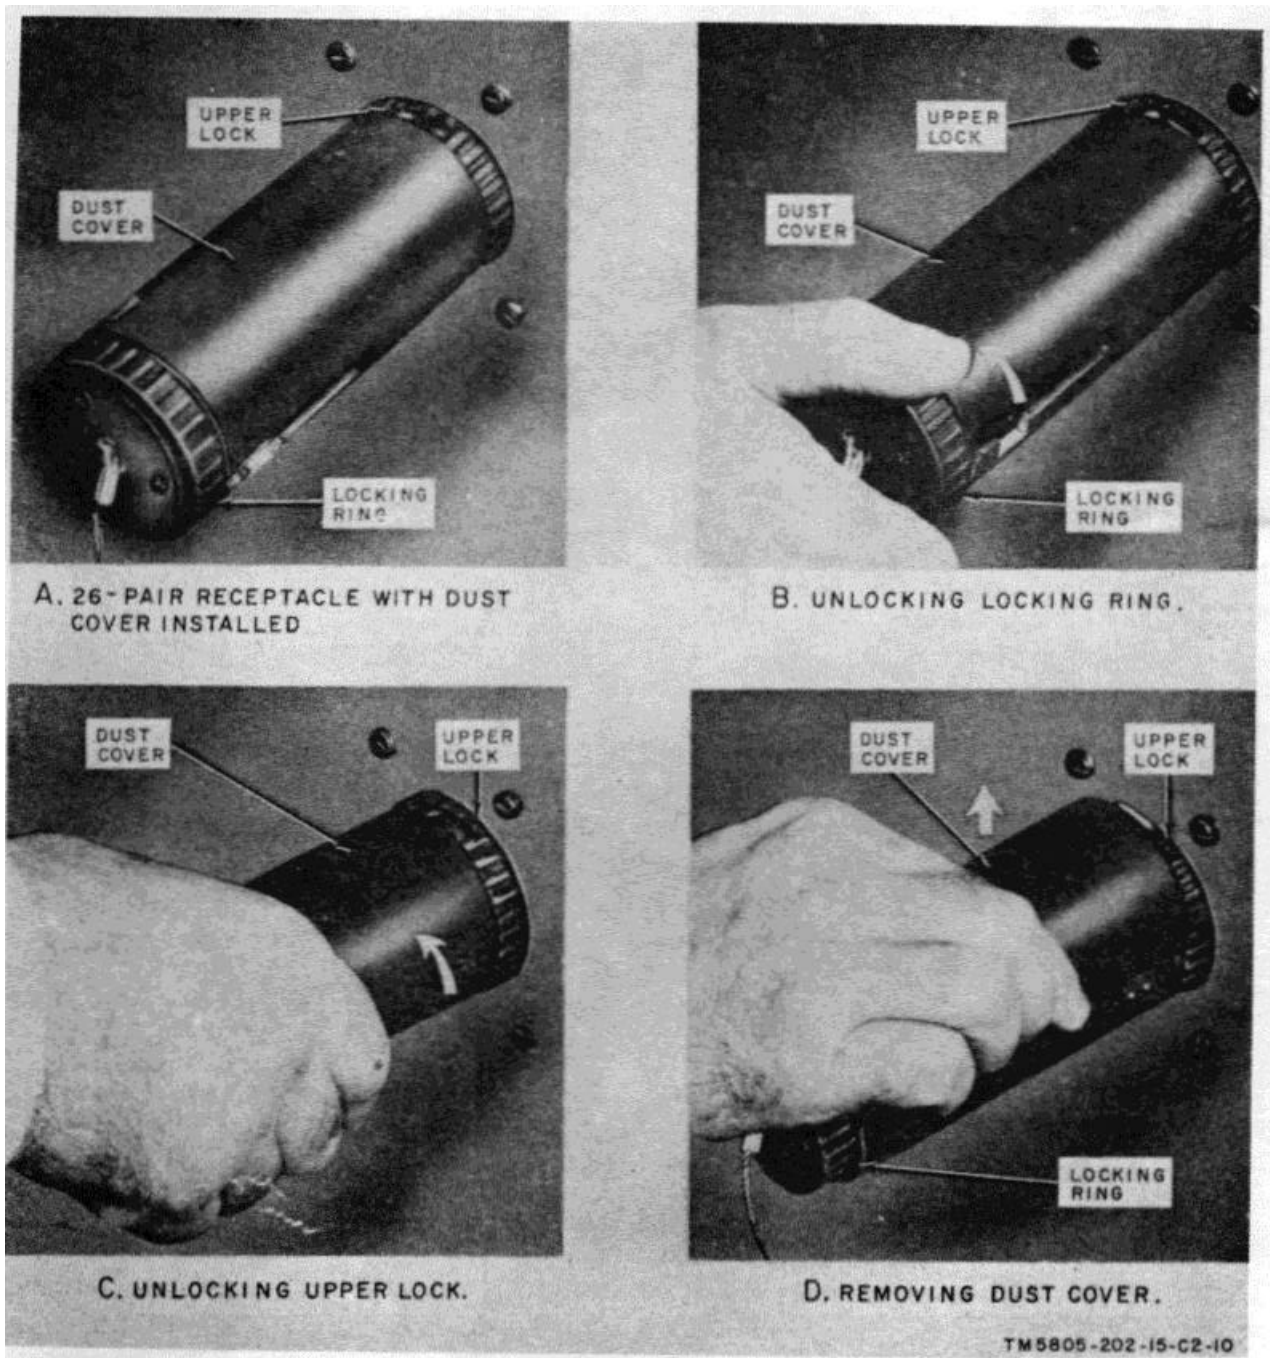
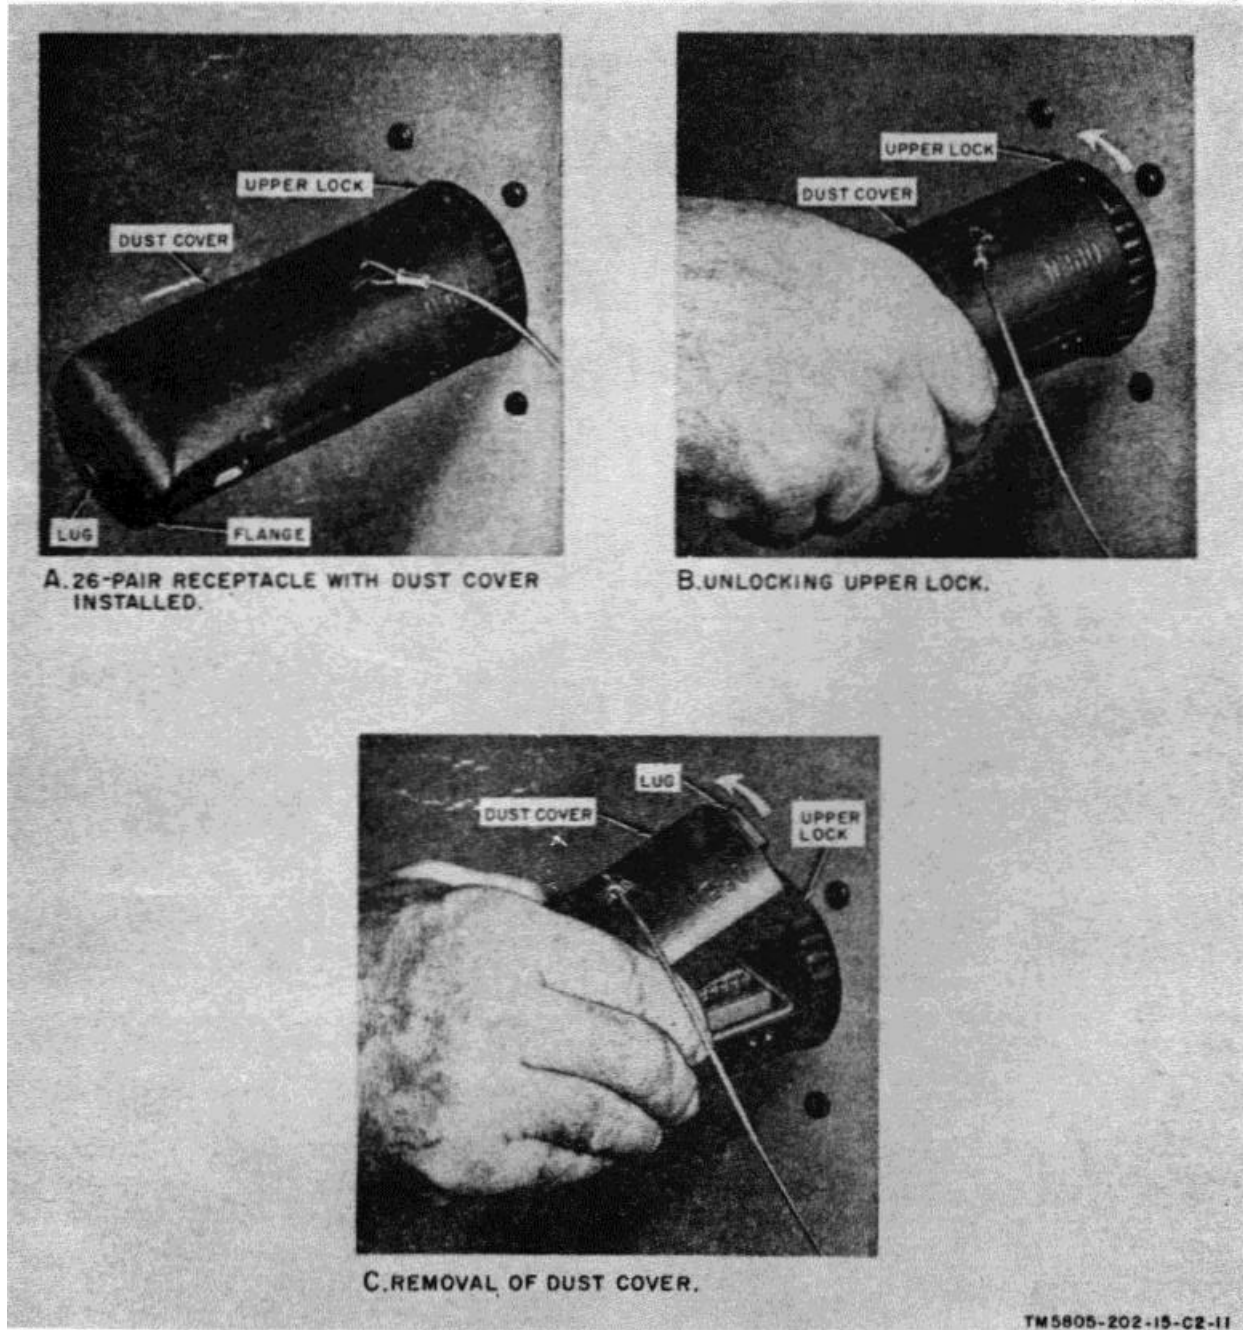
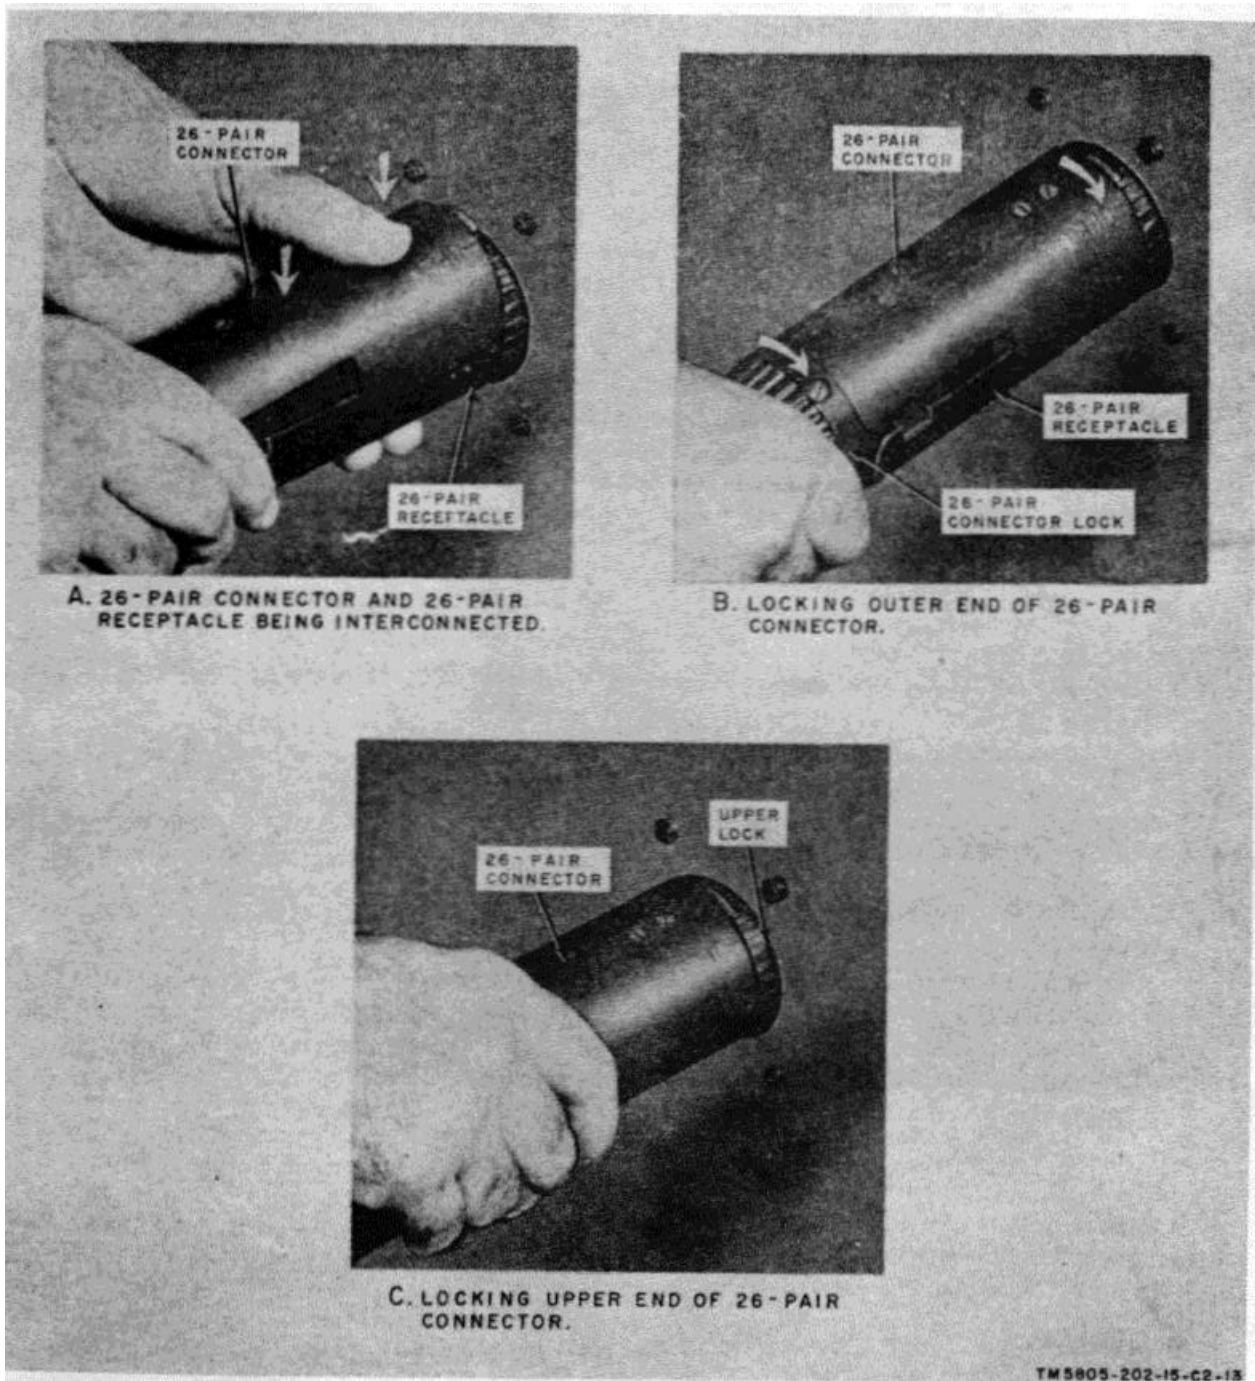

Figure 15.1. (Added) Removal of dust cover with locking ring on outer end.
Figure 15.2. (Added) Removing dust cover with flange on outer end.
Figure 15.3. (Added) Interconnection of 26-pair connector and receptacle.
a. Removal of Dust Cover With Locking Ring on Outer End (fig. 15.1)
- (1) Grasp the locking -ring on the outer end of the dust cover and turn it counterclockwise until the outer end of the dust cover is unlocked.
- (2) Continue to turn the dust cover and the receptacle counterclockwise until the upper end is unlocked.
- (3) Carefully lift the dust cover from the receptacle.
b. Removal of Dust Cover With Flange on Outer End (fig. 15.2).
- (1) Grasp the dust cover and the receptacle and turn them counterclockwise until the upper end is unlocked.
- (2) Lift the upper end of the dust cover off the receptacle.
- (3) Swing the dust cover upward and outward until the flange unhooks from the lug on the outer end of the receptacle.
c. Connection of 26-Pair Cable (fig. 15.3).
- (1) Remove the dust cover from the 26pair cable connector (a or b above).
- (2) Place the 26-pair cable connector on the receptacle. Be sure the connector is positioned squarely on the receptacle.
- (3) Gently press the connector into the receptacle.